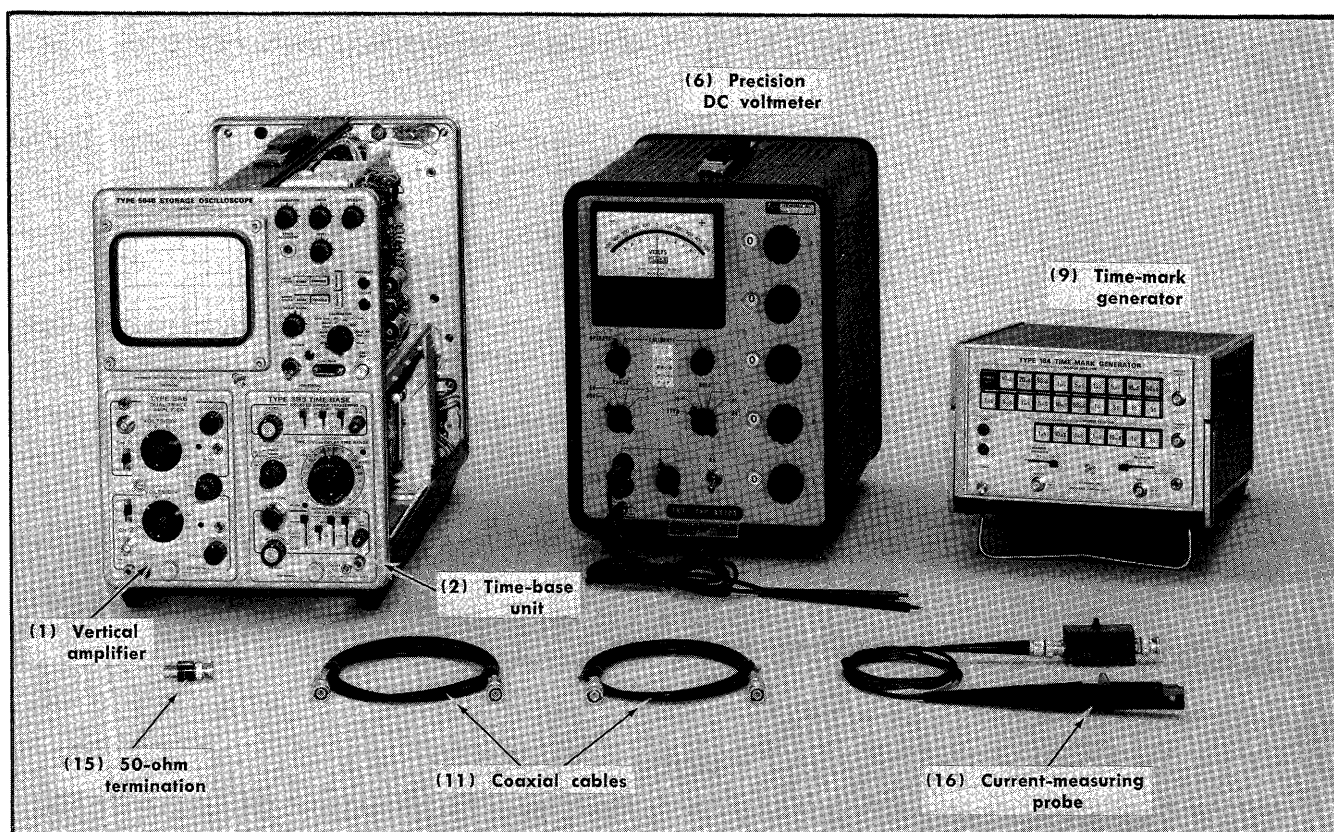

Fig. 5-15. Test equipment required for steps 18 through 22.
a. Test equipment required for steps 18 through 22 is shown in Fig. 5-15. The illustrated equipment is keyed to that listed under Test Equipment Required.